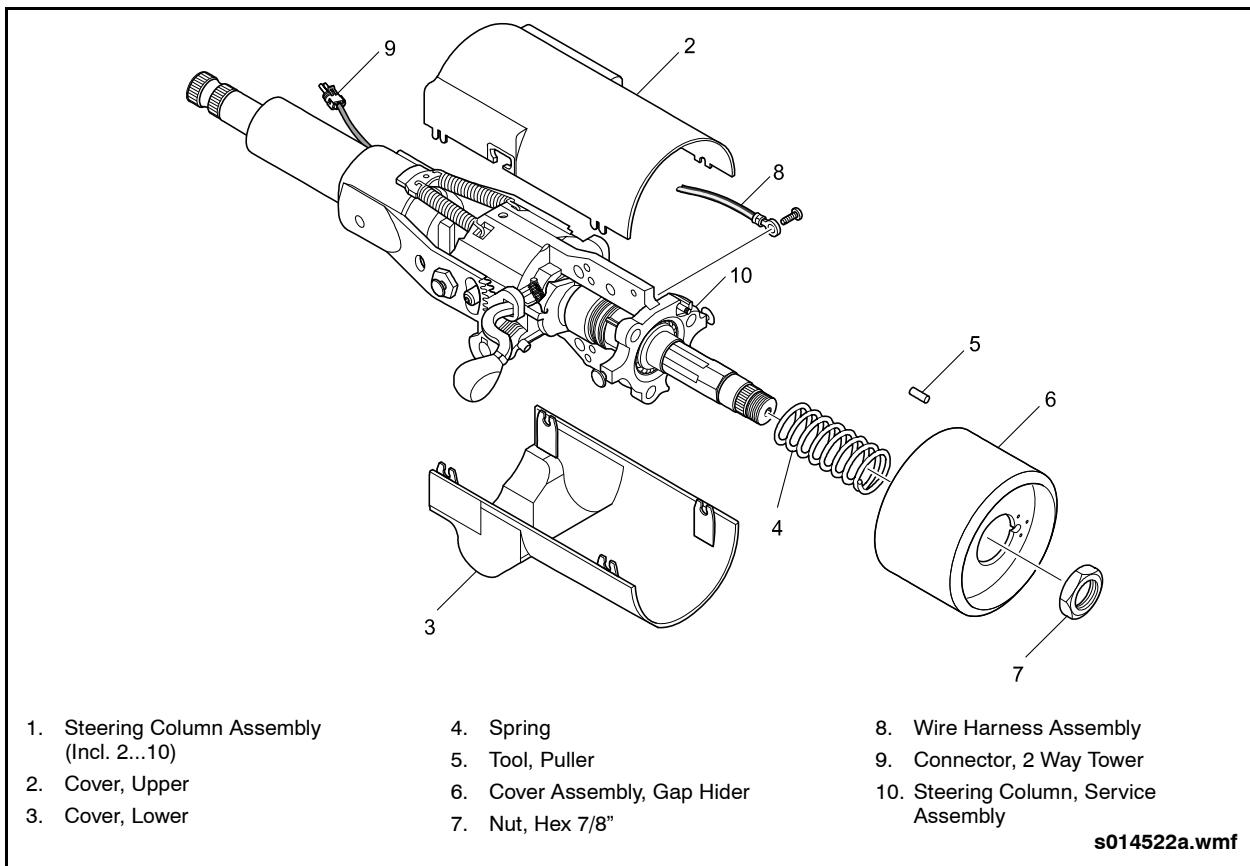

Fig. 3-10: Steering Column Assembly
9. Remove steering column from vehicle. See "Fig. 3-10: Steering Column Assembly" on page 18.